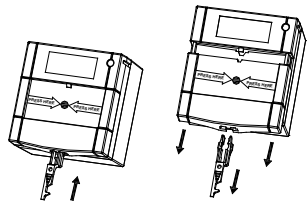

Fig. 3: Separate the front face from the body
1. Separate the front face from the front panel by inserting the reset key and gently pulling the lower portion of the front face down from the front panel (see Fig. 3).